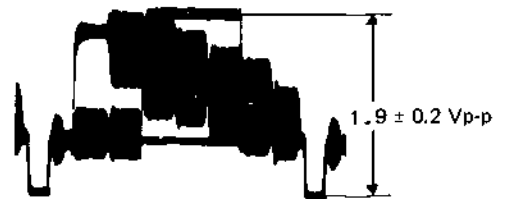

Fig. 5-19 PB Y level
2. Adjust R101 (PB Y LEVEL CCIR) for 1.9 Vp-p at TP-1 (VIDEO OUT) of the REAR CONN. board without load as shown in Fig. 5-19.
4. Adjust R105 (PB Y LEVEL NTSC) for 1.9 Vp-p at TP-1 (VIDEO OUT) of the REAR CONN. board without load as shown in Fig. 5-19.